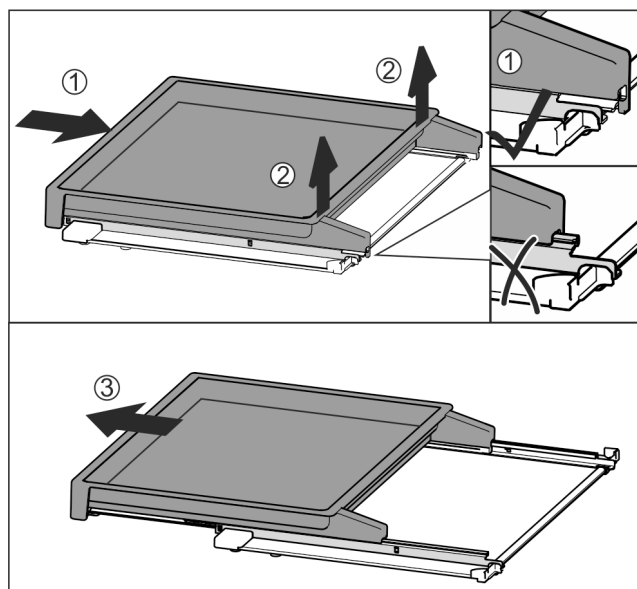

Fig. 96
- Slide the pull-out board all the way in Fig. 96 (1).
- Release the clips at the back Fig. 96 (2).
- Remove the pull-out board from the front Fig. 96 (3).